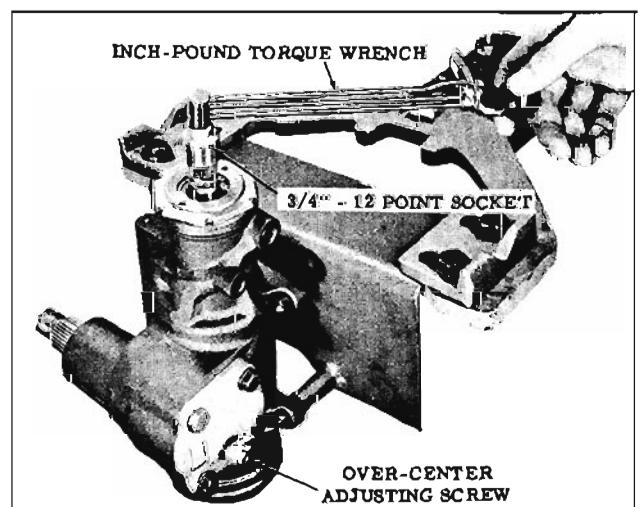

Fig. 8-73 Checking Over-Center Pre-Load
- Rotate the lower shaft from one stop to the other to count the number of turns and locate the center of travel, then check the combined ball and thrust bearing pre-load by rotating the torque wrench through the center of travel. (Fig. 8-73) Note the highest reading.